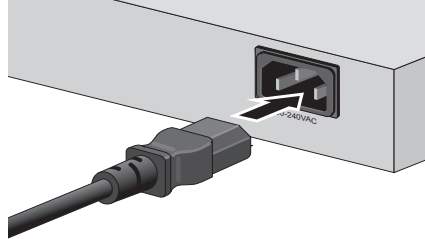

Figure 9 Connecting the AC Power Connector to Switch
1. Apply AC power to the switch by plugging the power cord into the AC power connector on the back panel of the unit, as illustrated in Figure 9.